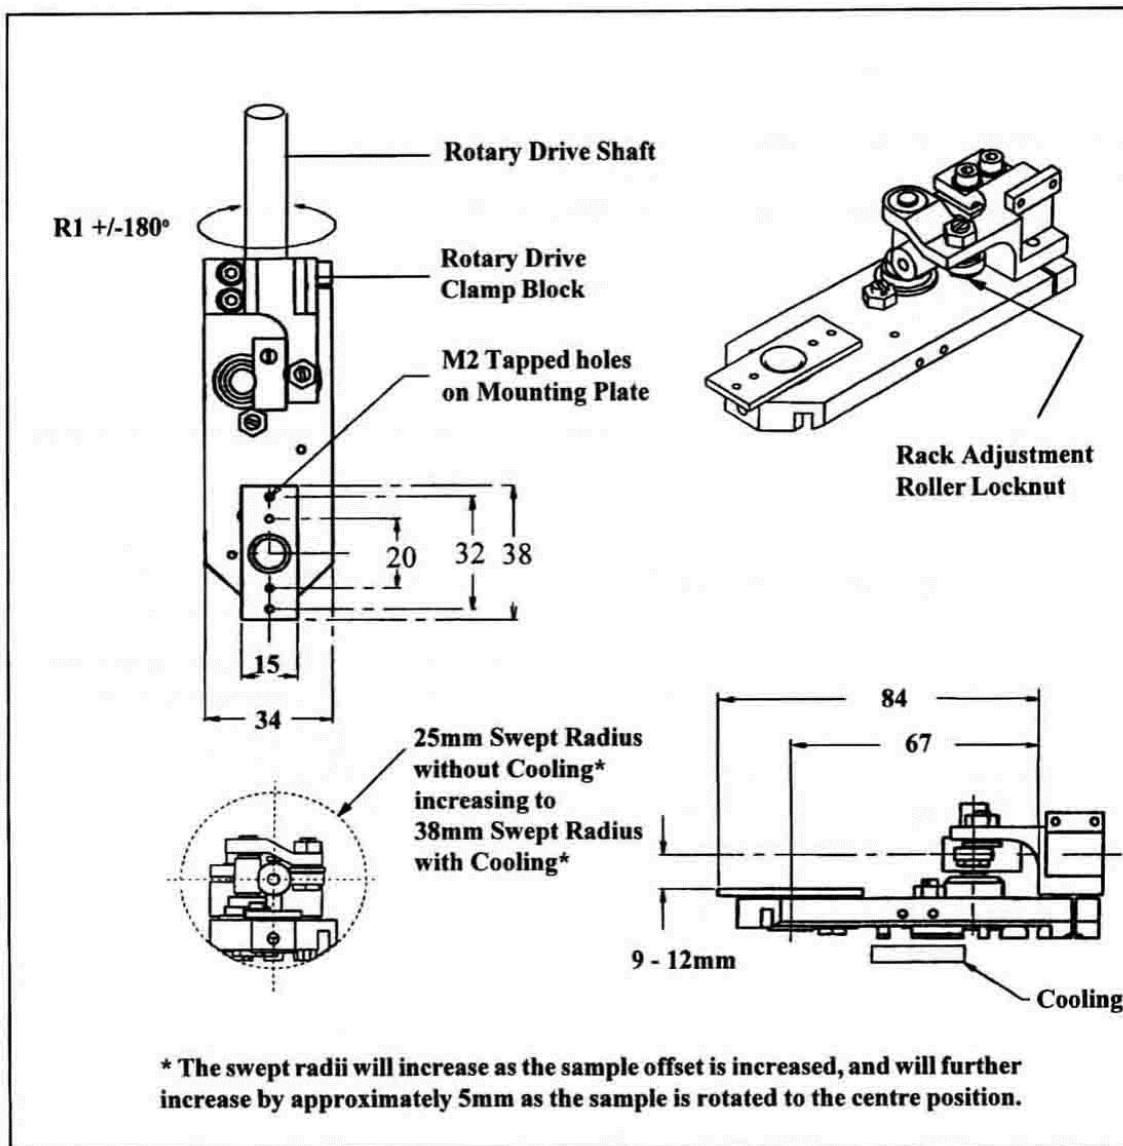

Figure 2 - The SH2 sample holder
The SH2 sample holder (see figure 2) is constructed from high quality materials and has been designed to give accurate and reproducible movements. It is designed for use with the model RD2 rotary drive. The SH2 is very similar to the SH1 (described in section 1), but is fitted with a precision mechanism which allows adjustment of the azimuthal angle during use.
Release the M4 cap head bolt (located on the edge of the main body of the SH2 beneath the clamp block - see figure 2) retaining the clamping block pins to the SH2 body. Loosen the set screws on the drive pulley and the adjustable spacer. The body may then be set at the required position, and the screws re-tightened. Ensure that no pre-load is applied to the bearings on the pinion shaft.
The range of adjustment is 9 to 12mm (see figure 2).
The meshing of the rack and pinion should be adjusted to allow the drive to run smoothly over the full extent of the travel with a minimum amount of backlash. If backlash is completely eliminated, the drive will be rough and damage to the gearing will result (see below). Should it be necessary to make this adjustment, proceed as follows (referring to figure 2).
- 3) Fit the new drive wire belt (Part Code ZSHWDB) to the drive pulleys as shown in figure 2. Ensure that the wire is routed around the pulleys as shown in this figure.